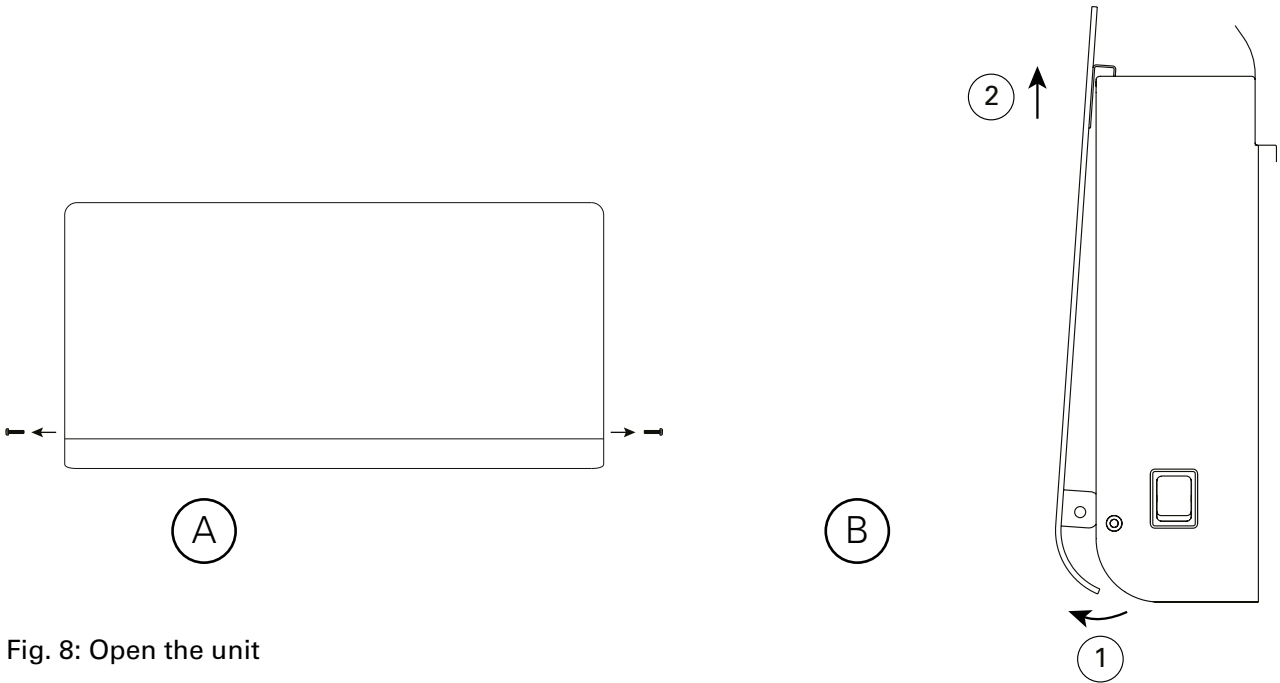

Fig. 8: Open the unit
2. The front is opened by removing the screws on the plastic ends (2x), pull the front at the bottom and then lift it up. (Fig. 8)